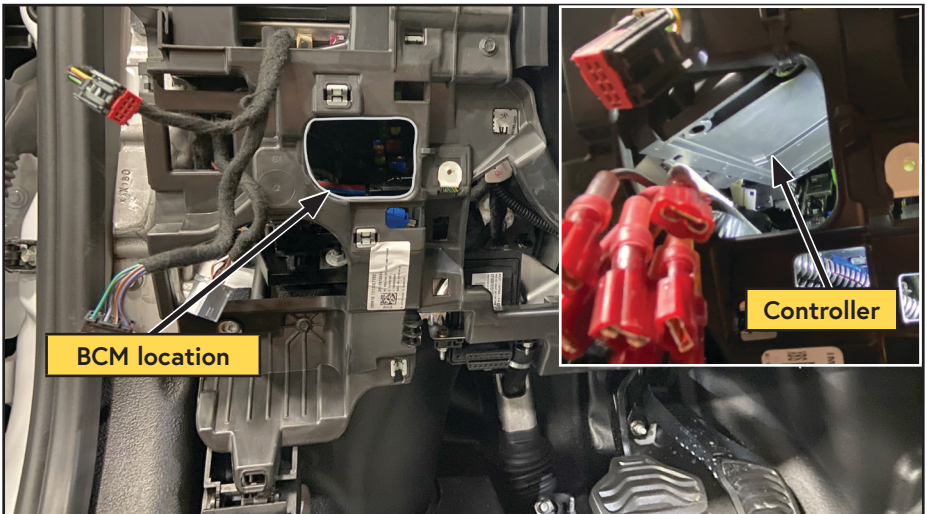

Figure 57 — Mount Controller
- Using a cable tie, mount the Controller in the cavity of the BCM (Figure 57).